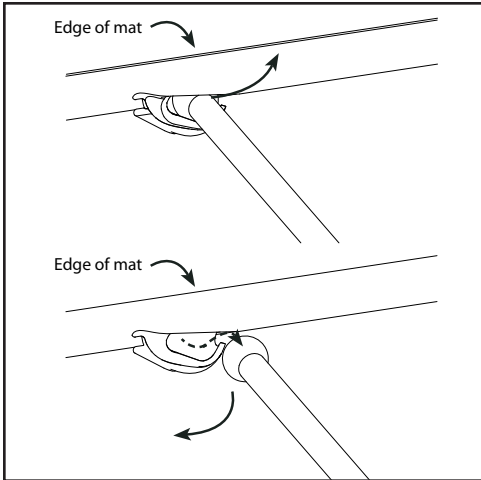

Figure 13-B: Removing the mat rod from the mat edge socket
* NOTE: If you miscount, and need to release a connected rod, hold the mat to the left of the rod with your left hand. Then using the technique outlined in Figure 12-B push the rod sharply at an angle towards the center of the mat and a little to your left. You should feel the rod move back in the mat edge socket then up and over a lip as shown in Figure 13-B.